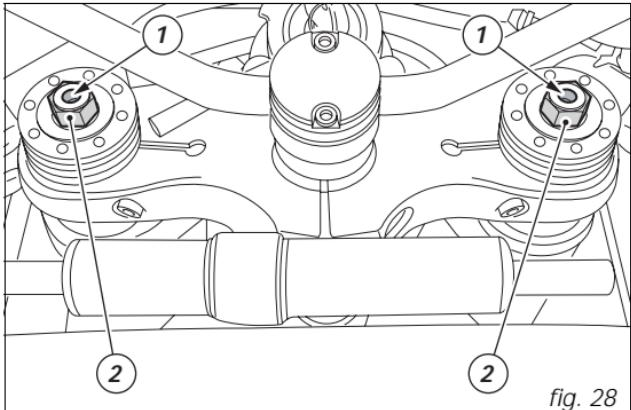
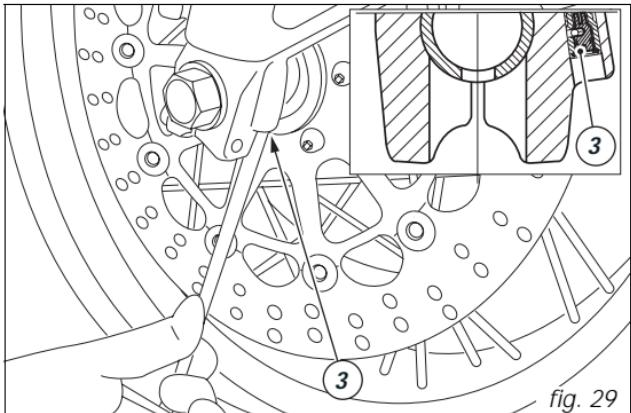

fig. 28
fig. 29
E Front fork adjusters (fig. 28 and fig. 29)
- 1) to adjust rebound damping (fig. 28);
- 2) to adjust spring preload (fig. 28);
- 3) to adjust compression damping (fig. 29).